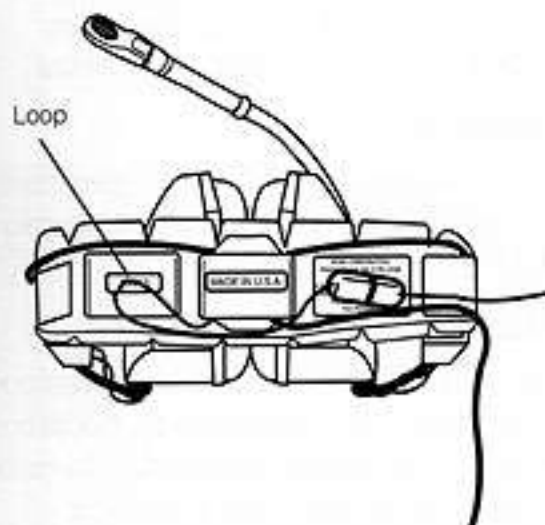

Figure 12
6. Route the boom cable to the earcup on which the boom is to be installed. If the boom is to be installed on the right earcup, do not route the cable sharply from the molded block in the center of the headband. Route the cable in a small loop to the left of this block, then in back to the right (see Figure 12).